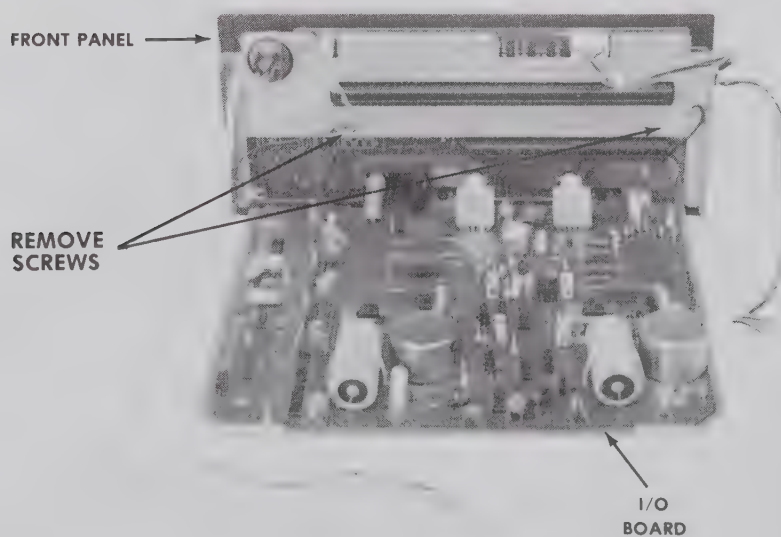

Figure 2-4 Removing the Front Panel and I/O Board
7. Pull the front panel all the way out of the frame with the bottom circuit board (I/O board) still attached (Figure 2-4).
8. Remove the two screws holding separate ground wires to the inside back of the front panel (the mother board). See Figure 2-4.
7. Refasten the two ground wires to the mother board (Figure 2-4).
8. V/F Board and Processor Board. With the face of the front panel facing down on a soft work surface, reinsert the V/F board in the middle slot and the Processor board in the top slot of the mother board. (Figure 2-4)